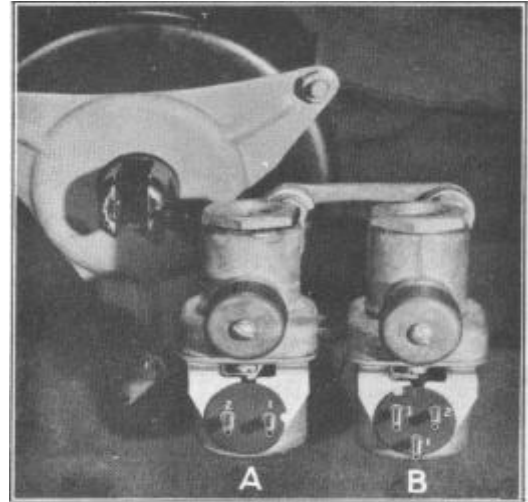

FIGURE 9
This solenoid (A), Figure 9, contains a single winding and each end is brought out to a terminal. The white wire (plug socket #1) is the hot wire from the instrument panel switch. The blue wire with two yellow tracers (plug socket #2) leads to the accelerator switch (plug socket #3).
This solenoid (B), Figure 9, looks like the clutch control solenoid but the inside construction is different. This unit contains two windings. One end of each winding connects to a plug prong while the other end is grounded in the solenoid housing. One winding operates